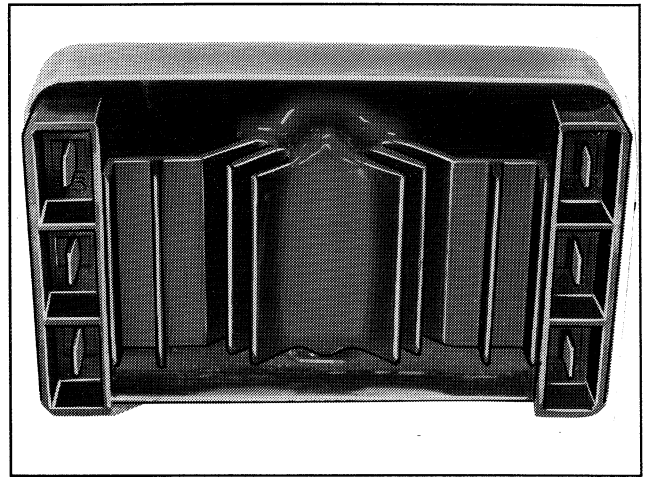

Figure 6-1. 6-Pin Voltage Regulator
1. Disconnect all leads from voltage regulator. See Figure 6-1.